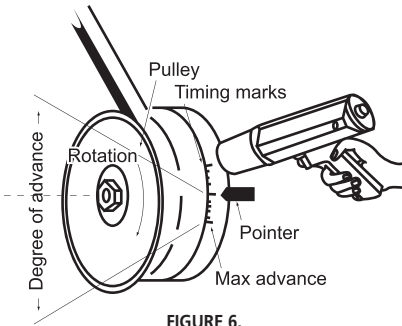

FIGURE 6.
6. Start engine and operate at normal idle speed. Aim the timing light to timing mark as figure 6.
3. Direct timing light flash at timing marks and slowly rotate distributor right and left until timing marks are aligned with pointer. See figure 6. Stop engine.
The timing mark should then move steadily and without jerking. (See figure 6.)